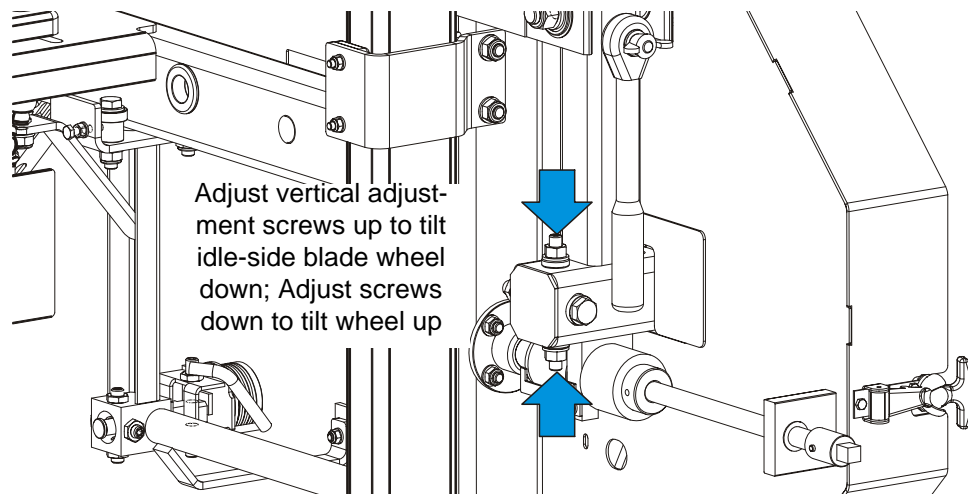

FIG. 6-4
**See Figure 6-4.** Use the vertical adjustment screws to adjust the idle-side blade wheel. To tilt the wheel up, loosen the bottom adjustment screw one quarter turn. Loosen the jam nut on the top adjustment screw and tighten the screw. Tighten the top and bottom jam nuts.